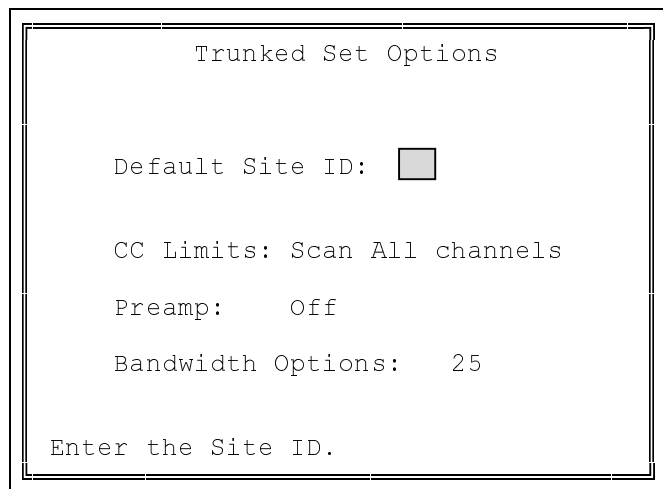

Figure 19 - Trunked Set Options Window
- Press the **F7** (Option) function key to go to the **Trunked Set Options** window (see Figure 19).